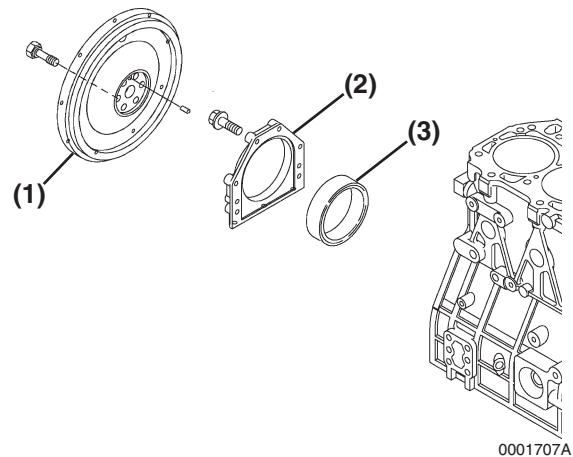

Figure 6-135
7. Apply ThreeBond Liquid Gasket No. 1212, Yanmar Part No. 977770-01212 to the mounting flange of the seal housing (Figure 6-135, (2)).
10. Reinstall the flywheel (Figure 6-135, (1)) and tighten the bolts to the specified torque. See *Special Torque Chart* on page 6-23 for specifications.